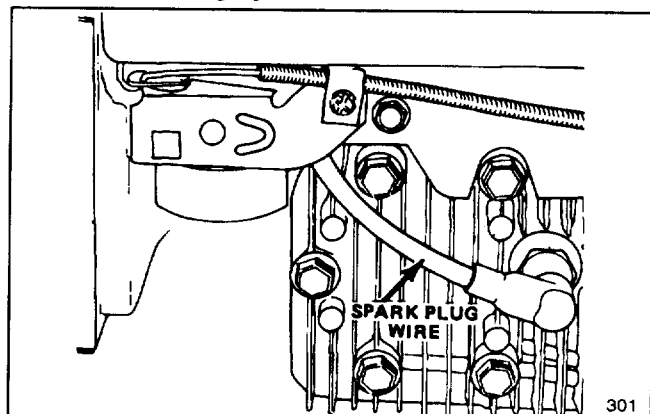

Figure 13
2. Push spark plug wire onto spark plug (Fig. 13).
1. Stop engine. Remove key from switch and pull wire off spark plug (Fig. 13).
1. Stop engine and wait for engine to cool. Remove key from switch and pull wire off spark plug (Fig. 13).